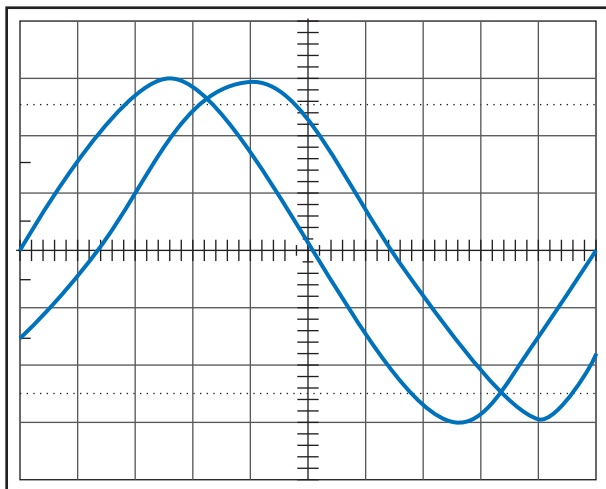

Figure 26-32 Vertical: 200 mV/div; horizontal: 2 μ s/div.
26.5 What is the amount of phase shift between the two sine waves in Fig. 26-32?